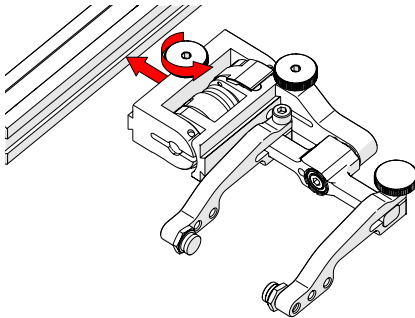

Fig. 62 - Attach to frame bar
1. Rotate the probe holder adjustment knob and attach the probe holder to a frame bar (Fig. 62).